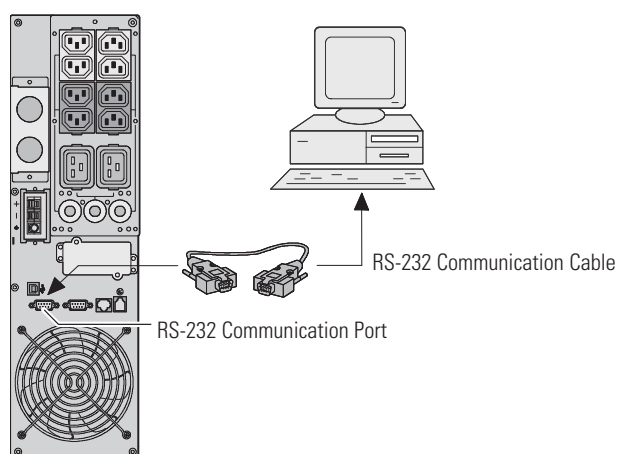

Figure 18. Installing the RS-232 Serial Cable
- Use a two-position switch (normally-open or normally-closed contact and held more than one second). See Figure 18.